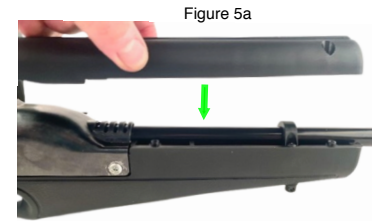

Figure 5a
Take the top cover (B) as seen in (Figure 5a) and place over the barrel unit it is lined up with the bottom of the stock body as seen in (Figure 5b). Using (4) #6x48/2 x 1/2" phillips head screws (#8) and a phillips head screw driver, tighten the top cover to the stock body as seen in (Figure 5c).